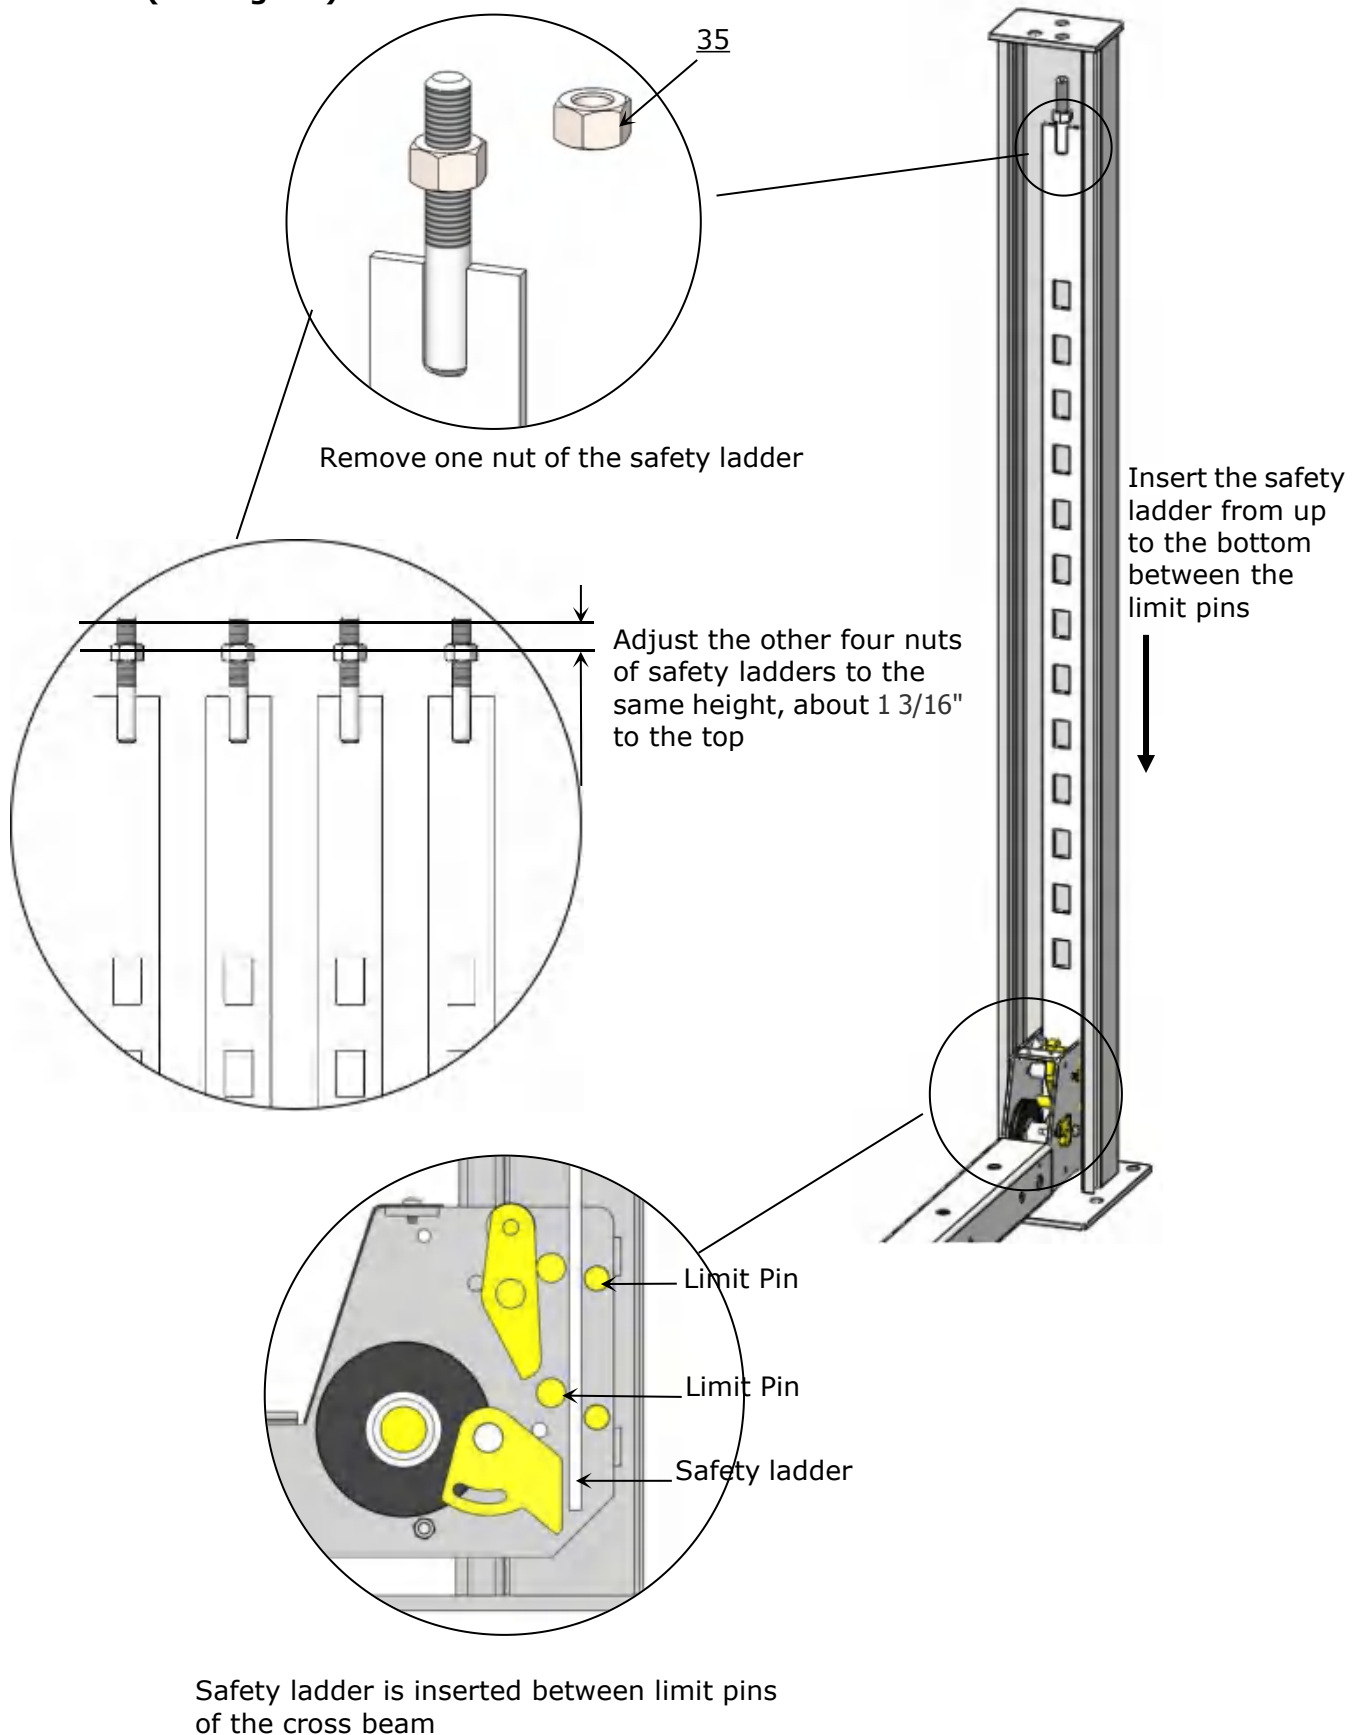

Fig.17
1. Take off the cross beam protective cover and remove one nut of the safety ladder, adjust the other nuts of four safety ladders to be at the same position. Then install the safety ladders (**See Fig. 17**).